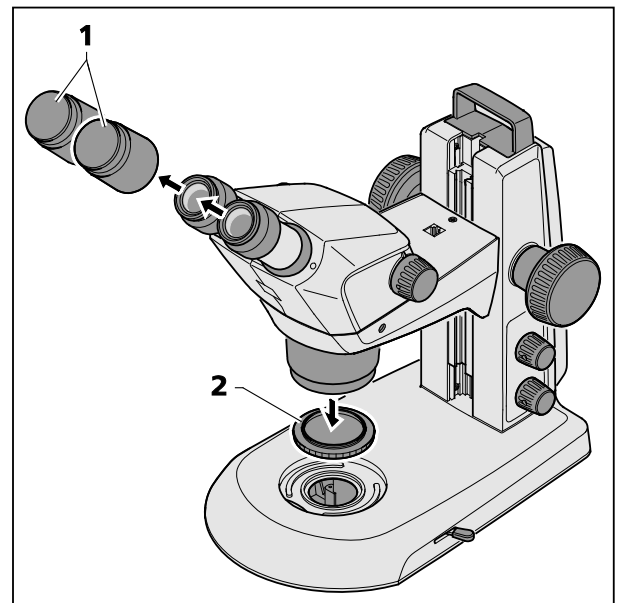

Fig. 9 Removing caps
- Remove the two protective caps from the eyepieces (Fig. 9/1) and remove the protective cap (Fig. 9/2) from the objective by turning.